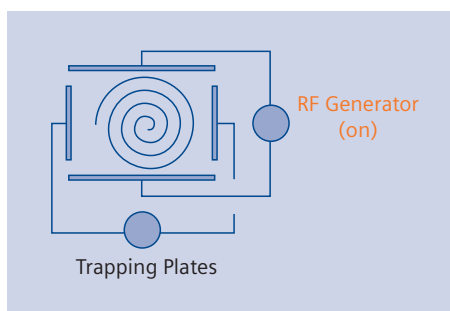

Figure 2: The RF frequency moves the ions into a higher orbit
This is accomplished by the second basic physics principle. This principle is, that each unique ion mass will absorb or resonate with a very specific and unique resonance frequency (RF). So if we wanted to measure for the presence of a specific ion, like the N_2 ion for example, we could beam in the RF frequency that N_2 would absorb. As the N_2 ions absorb this energy, the orbit that the N_2 ions follow increases until it "leaves the pack" of the other ions in the mixture (Figure 2). The N_2 ions are still rotating on the same magnetic field line as the others, just in a higher orbit. Consequently, with appropriate variation of the RF frequencies, it is possible to measure a wide range of ion masses.